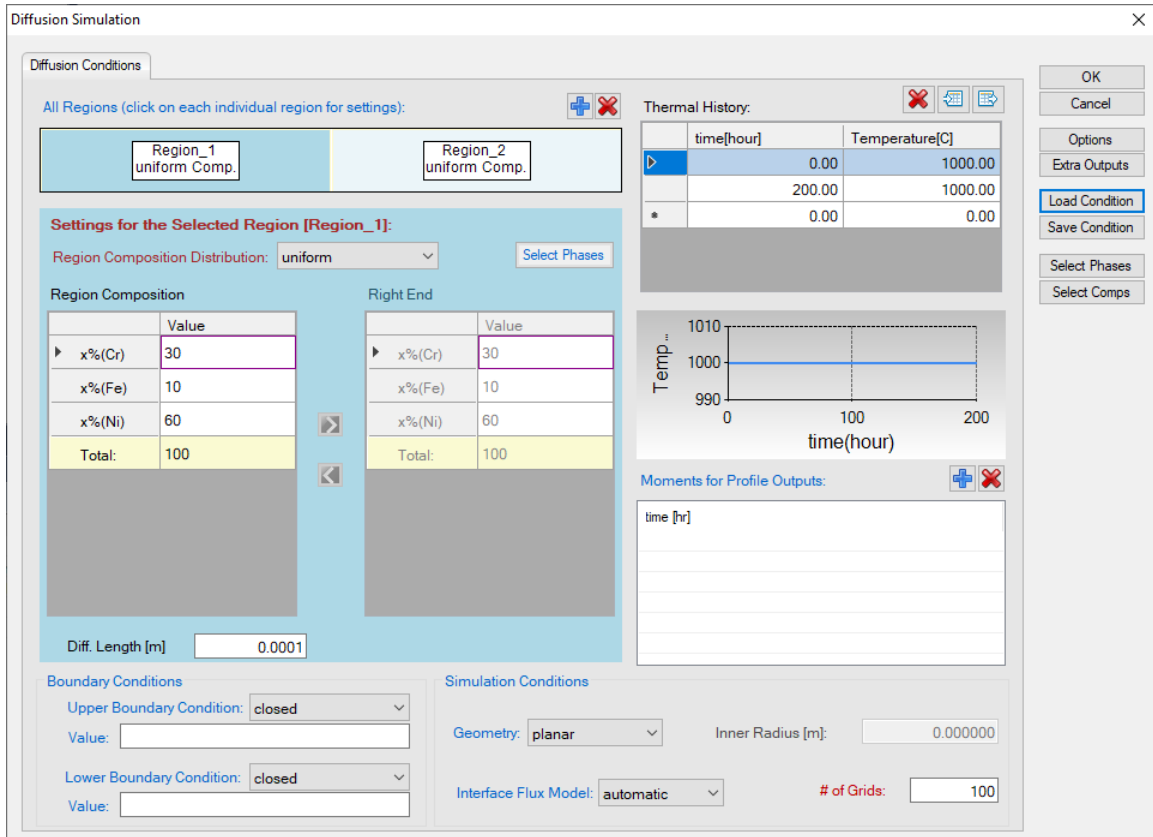

Figure 4.3.1: Setting of the simulation condition
- Click on "PanDiffusion->Diffusion Simulation" and set up the calculation condition as shown in Figure 4.3.1. First select Region Composition Distribution as Uniform. Click on Region_1 and set the composition of the left region of the diffusion couple as 30Cr-10Fe-60Ni (at%), then click on Region_2 and set the composition of the right region of the diffusion couple as 55Cr-40Fe-5Ni (at%).
- In the setting shown in Figure 4.3.1, composition profiles only at the initial and final stages will be outputted. Click OK to perform calculations.